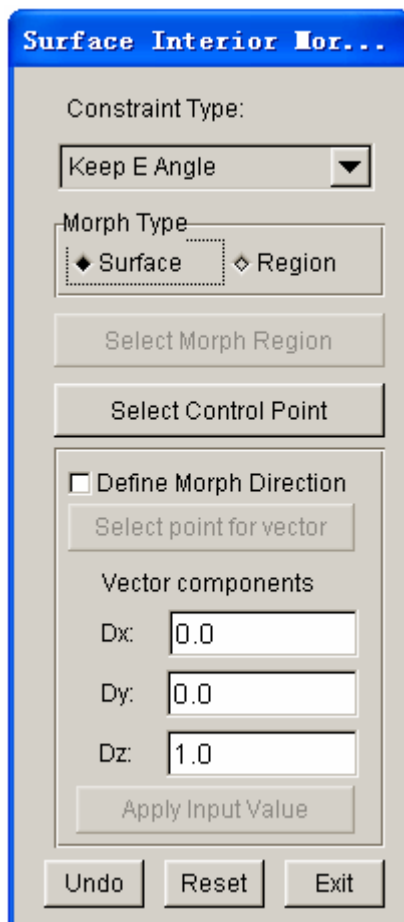

Figure 6.5.4 Surface Morphing – Interior
- After a surface is selected, the dialog box as illustrated in Figure 6.5.4 is displayed.